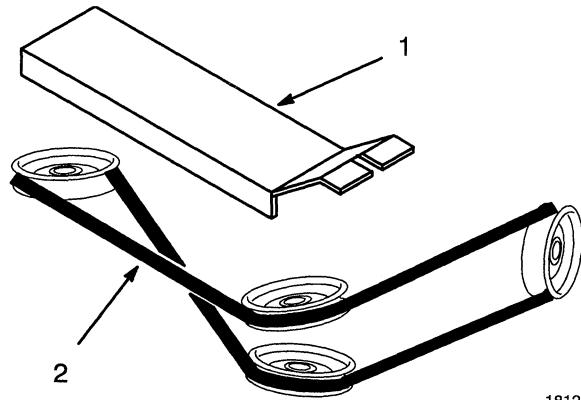

Figure 17
1. Remove belt covers and note routing of belt (Fig. 17). Remove belt. This belt is designed specifically for this application. Install belt and belt covers as outlined under Install Vacuum .